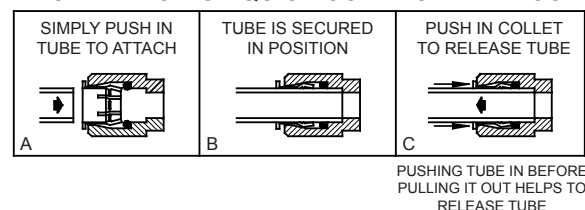

Figure 15 – Quick Connect Fittings
**Actuation of Quick Connect Water Fittings:** Cooler is provided with lead-free connectors which utilize an o-ring water seal. To remove tubing from the fitting, relieve water pressure, push in on the gray collar while pulling on the tubing. (See Figure 15) To insert tubing, push tube straight into fitting until it reaches a positive stop (approximately 3/4").